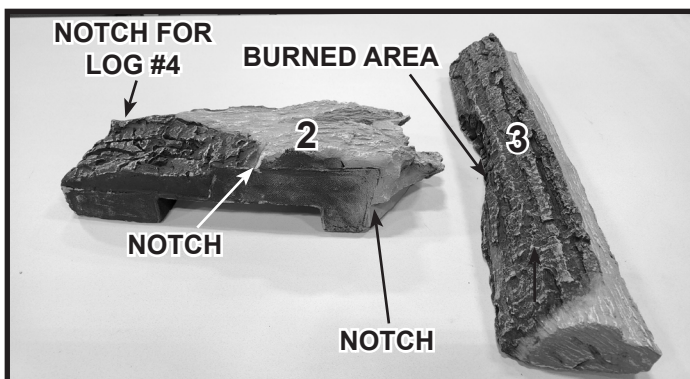
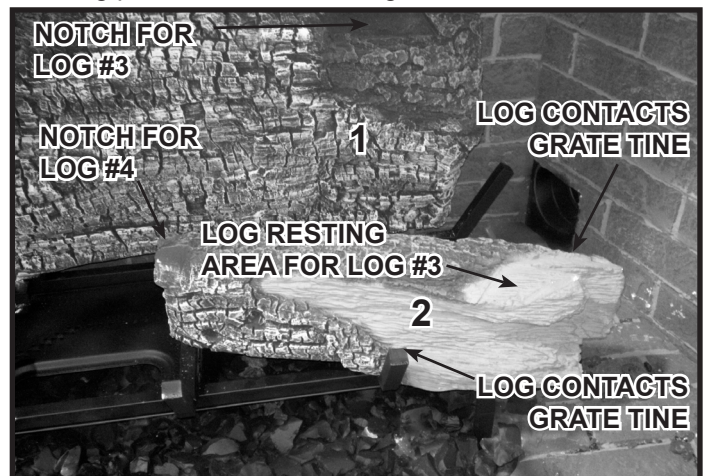

Figure 4
Figure 5
**Log #2 (SRV2282-742):** Locate log placement notches on the bottom of Log #2. See Figure 4. Mate notches on the bottom of Log #2 as shown in Figure 5. Notch on front of log will contact right front grate tine and notch on right side of log will contact the side grate tine. Left end of Log #2 will contact the center log placement tab. See Figure 1.
**Log #3 (SRV2282-743):** Locate log placement areas for Log #3. See Figure 5. Place Log #3 into notch on Log #1 so that the base rests on the flat area of Log #2. The top of the burned area on Log #3 will be close to Log #1 when properly positioned. See Figure 8.